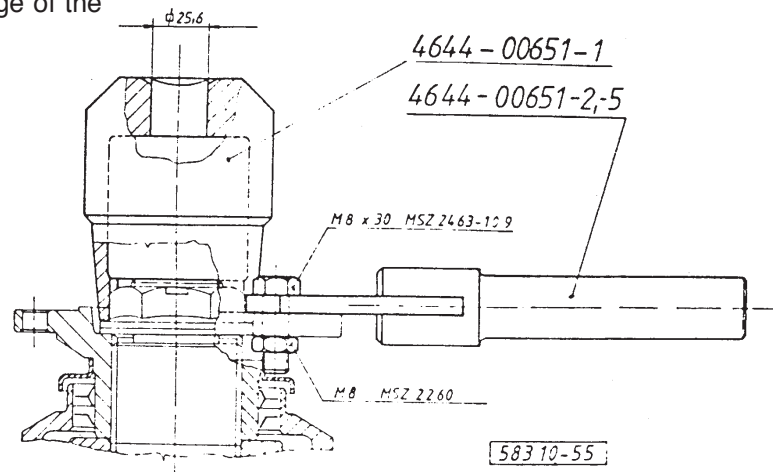

Fig. 1.: ASSEMBLING THE SELF-LOCK NUT
For assembling the self-lock nut (1) use the tools shown (Fig. 1.).